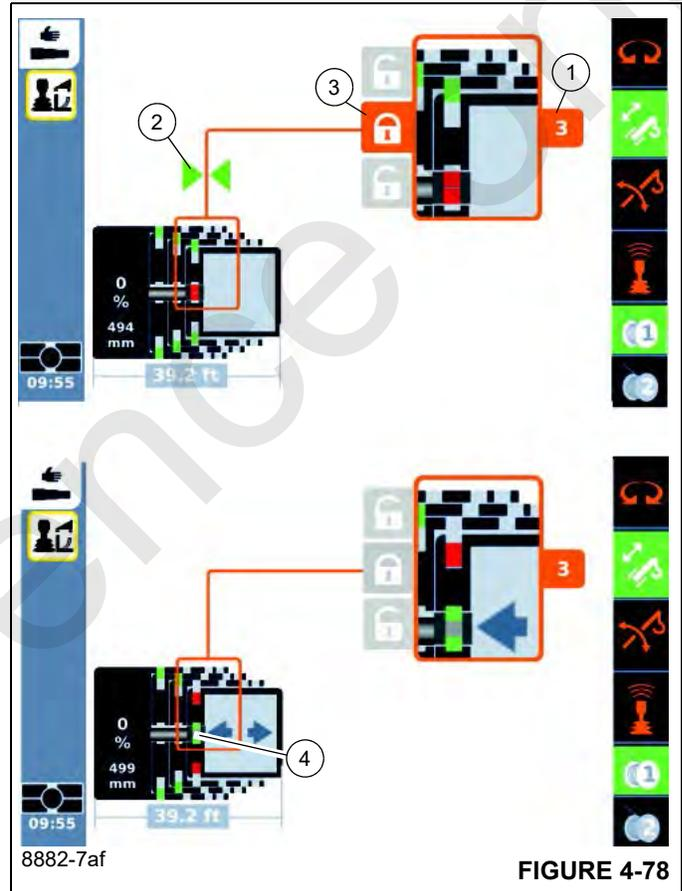

FIGURE 4-78
- Move the telescoping cylinder to the desired locking point, e. g. to telescopic section (1), (Figure 4-78). Wait until the display:
- shows the desired telescopic section (1), (Figure 4-78);
- the symbols (2) are shown.
- Select the symbol (3).
- Confirm the selection – the locking pins (2) will extend – symbol (4) green.